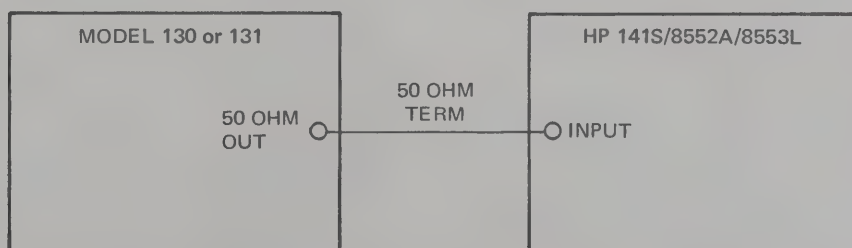

Figure 4-3. Spectrum Analysis Test Setup
10. Connect spectrum analyzer to unit as shown in Figure 4-3. Check sine distortion at 2 MHz.